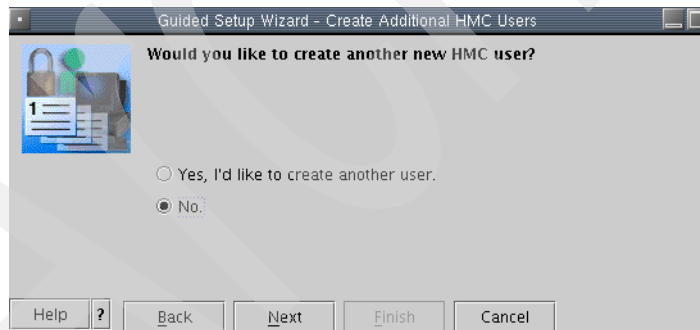

Figure 4-9 Guided Setup wizard - Create more additional HMC Users
9. The Guided Setup wizard - Create additional HMC users panel will appear (see Figure 4-9).